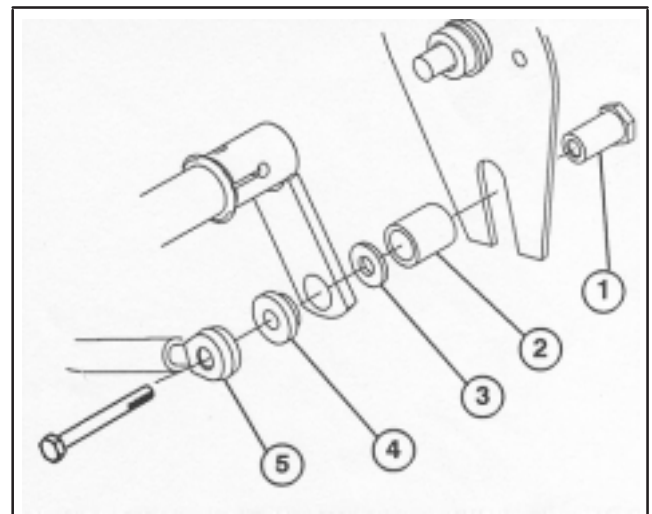

Figure 3
10. Secure cruise nut, sleeve and washer to left side of traction linkage lever and ball joint with previously removed capscrew and new spacer, while positioning components in clutch plate slot as shown in figure 3.